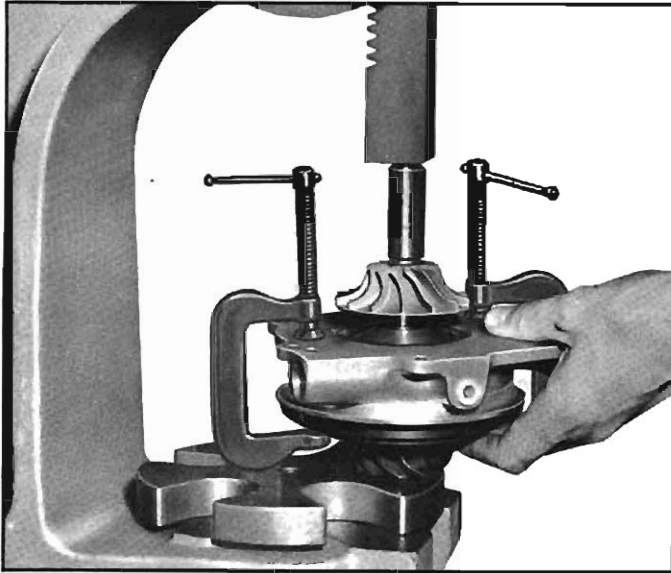

Fig. 55—Impeller Installation
15. Press the impeller onto the shaft, using a hollow spacer such as Tool J-6880 until it bottoms in place (fig. 55), then remove "C" clamps.